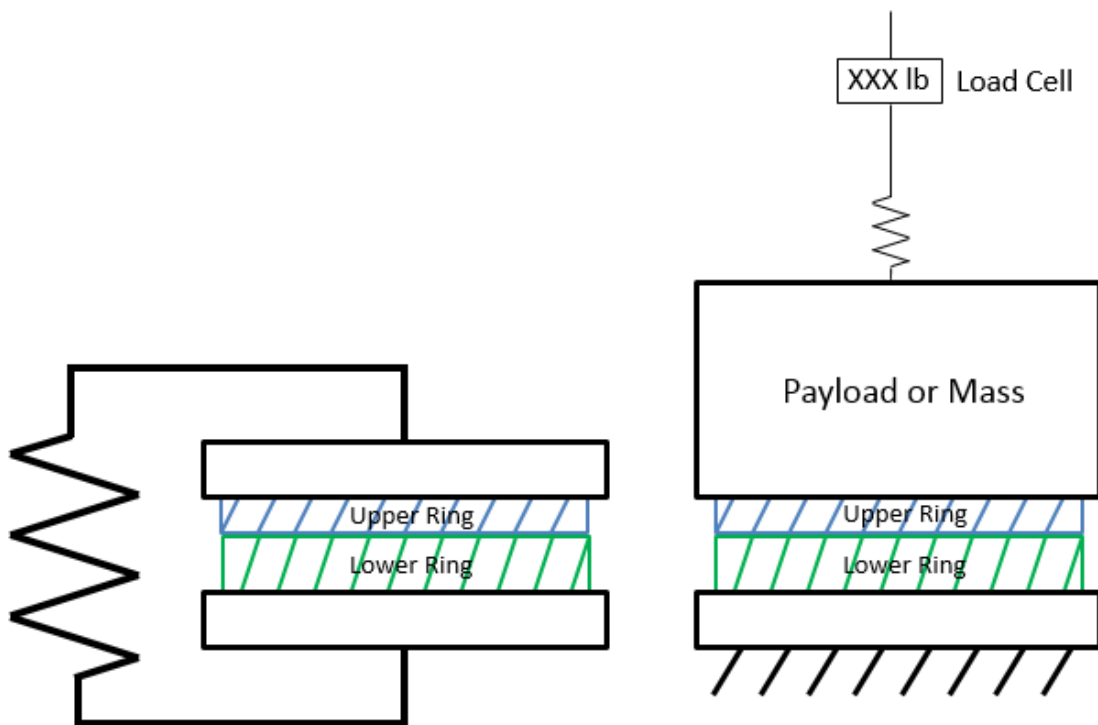

Figure 8-5: Verifying compliance in Lightband compression system. Two common methods shown.
8.1.8	Verify the system being used to compress the Lightband has a total axial (X_{LB}) stiffness less than 2,000 lb/in (the entire loop from the Upper Ring around to the Lower Ring). This applies to a crane system offloading a mass, a compression clamp fixture, etc. An isolation system (if attached to the Lightband) can be included in this stiffness calculation. See Figure 8-5. This compliance ensures the Lightband is able to self-align while Stowing. If the system is overly stiff, the Lightband motors will not be able to impart the necessary power required to quickly move the Upper Ring into alignment.